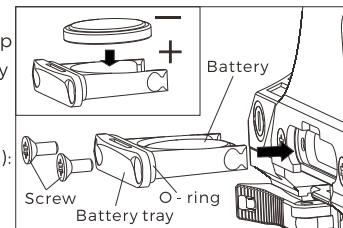

Fig 3-2
- b. Battery installation (Fig 3-2):